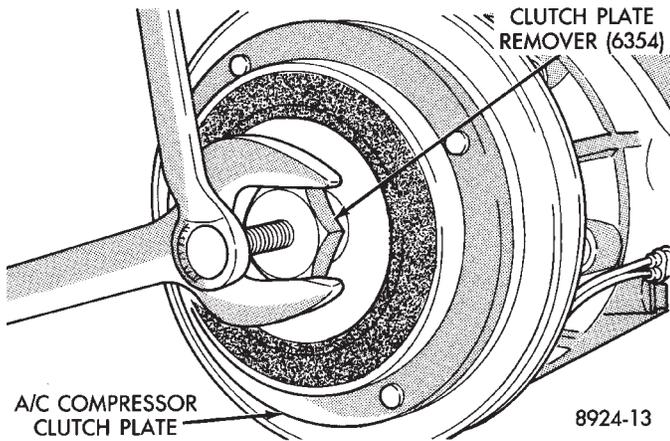

Fig. 4 Remove Front Plate
(2) Using a Clutch Plate Remover (6354), remove the clutch front plate from the compressor (Fig. 4). When installing the front plate, select the proper shims to achieve .5 to .9 mm (.020 to .035 inch) air